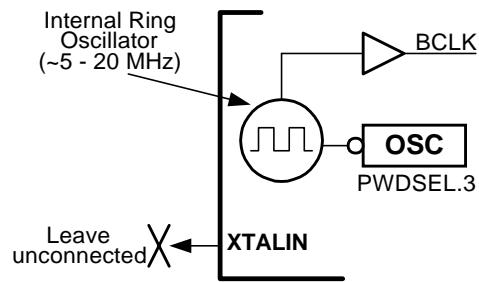

Figure 43. Internal ring oscillator.
1. An internal ring oscillator operates at frequencies ranging between 5 MHz to 20 MHz, as shown in Figure 43. The ring oscillator frequency is temperature, voltage, and process dependent. The internal ring oscillator can be shut off during power-down mode by setting the OSC bit (PWDSSEL.3).